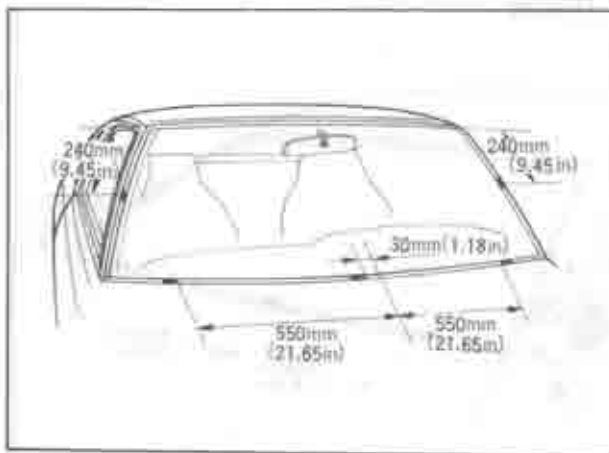

Fig. 14-29 Position spacers
4. Bond each spacer to the glass opening flange with bonding agent. Fig. 14-29 shows the directions and positions of each spacer. There are two kinds of spacer.
Although the spacer is bonded on both the right and the left hand sides of the windshield glass in Fig. 14-29, the spacer on only one side of the glass should be sufficient.